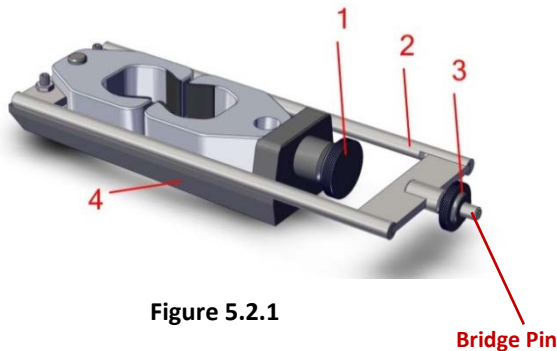
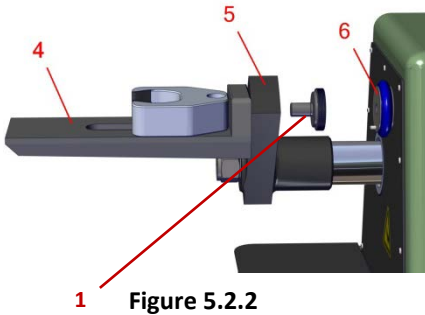
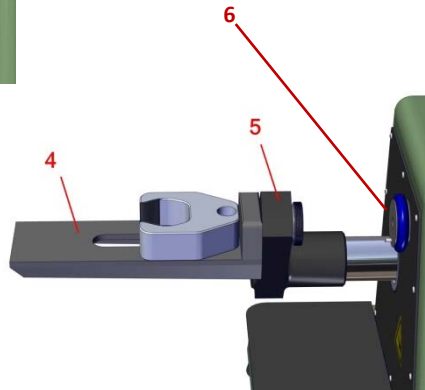

Figure 5.2.1
Figure 5.2.2
Figure 5.2.3
1. Remove the large knurled connecting screw (Figure 5.2.1, Item 1) from the base of the cold tensile accessory (Figure 5.2.1, Item 4). Remove both the tensile bridge (Figure 5.2.1, Item 2) and left tooling jaw from the base of the tensile accessory.
2. Gently slide the threaded boss of tensile accessory base onto the moveable clamp arm (Figure 5.2.2, Item 5) of the strength machine. Replace the knurled screw and hand tighten to attached the cold tensile base to the moveable clamp arm (Figure 5.2.2 and Figure 5.2.3).
3. Place the left tooling jaw and tensile bridge on the top surface of tensile accessory base. Gently slide the bridge pin (Figure 5.2.1) into the hole located in the center of the stationary clamp holder (Figure 5.2.2, Item 6).
4. Adjust the knurled bridge nut (Figure 5.2.1, Item 3) until the flat surface of the bridge nut facing the stationary clamp holder (Figure 5.2.2, Item 6) is approximately 1/32" (.078 mm) away from the surface of the stationary clamp holder (see Figure 5.2.5).
(See Figure 5.2.3 for Item Description)